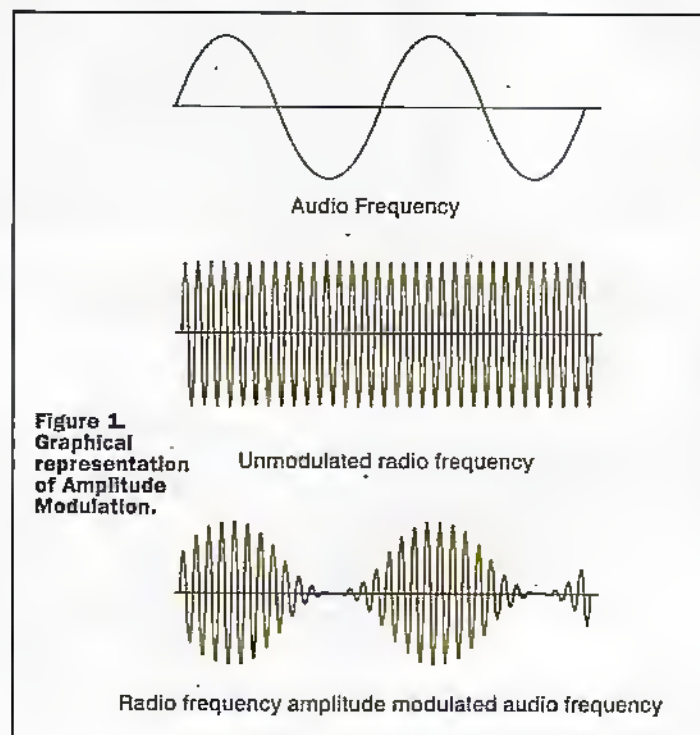

Figure 1
AM or Amplitude Modulation is a system whereby audio information, such as speech, is superimposed on a radio frequency (RF) signal known as a carrier. The amplitude of the RF varies with that of the audio signal. This concept is illustrated in Figure 1. The task of the receiver is to recover the original audio waveform from the RF transmission, a process known as demodulation.